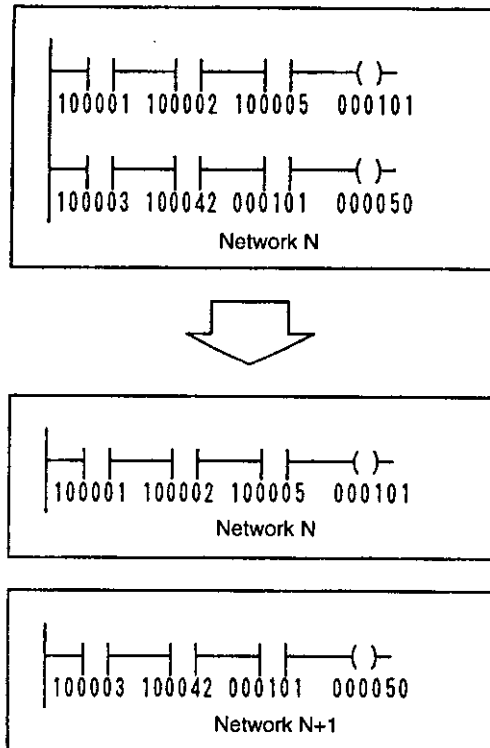

Figure 2.27 Separation into Two Networks
- 9) If another element is inserted between contact 100002 and coil 000101 in the first row of a network (as shown in the top diagram in *Figure 2.27*), the results of coil 000101 changes will not be reflected in the second row within that scan, but will be delayed until the next scan.
If this delay will present a problem, it can be avoided by deleting the second row from that network and writing it to the next network (as shown in the two lower diagrams in *Figure 2.27*). When it is done this way, the results will be reflected in the same scan.